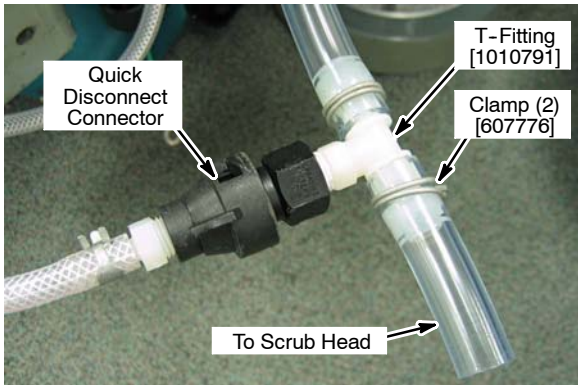

Fig. 31
12. Using T-fitting [p/n 1010791] and two wire clamps [p/n 607776], connect the quick disconnect connector from the *ec-H2O* solution hose assembly to the solution tank outlet hose as shown (Figure 31). Use a thread sealer tape.